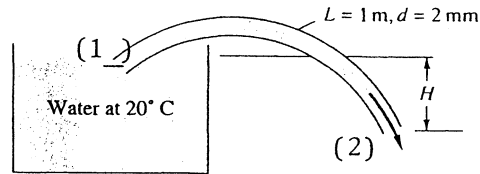

Fig. P6.14
6.14 Water at 20°C is to be siphoned through a tube 1 m long and 2 mm in diameter, as in Fig. P6.14. Is there any height H for which the flow might not be laminar? What is the flow rate if $H = 50$ cm? Neglect the tube curvature.